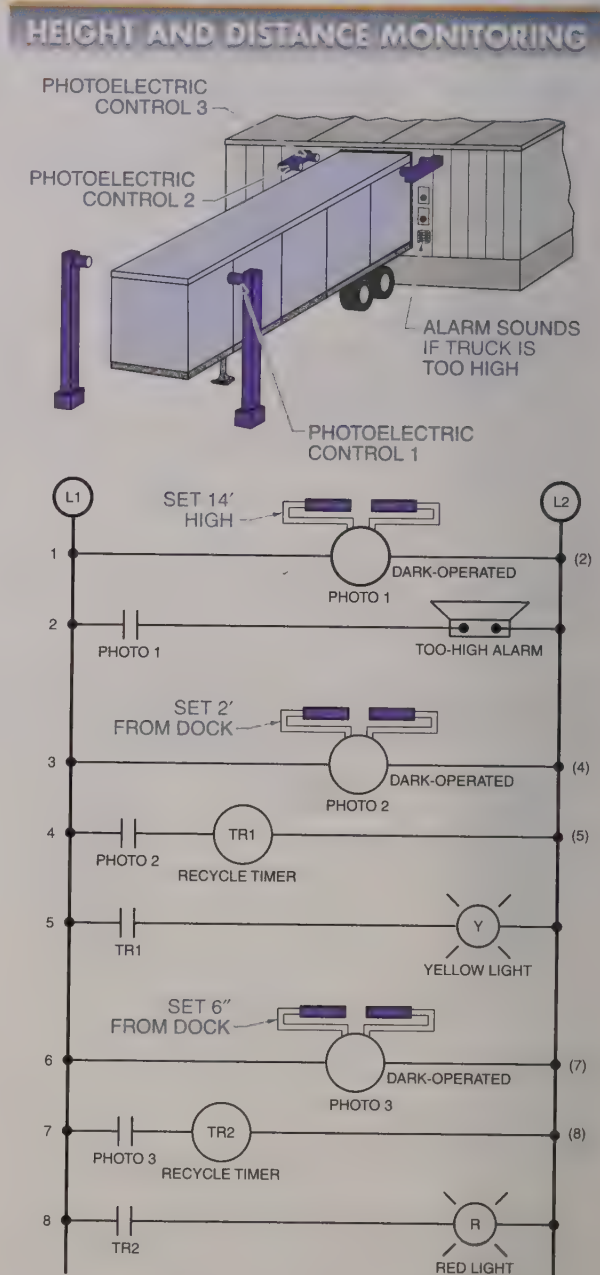

Figure 24-33. Photoelectric sensors may be used to monitor a truck loading bay for clearance and distance.
Photoelectric sensors may be used to monitor a truck loading bay for clearance and distance. See **Figure 24-33**. In this application, any truck 14'-0" or larger must be unloaded at another bay. (The dimensions vary depending on particular needs.) In the control circuit, photoelectric sensor 1 (PHOTO 1) turns on an alarm in line 2 if the truck is too high. Photoelectric sensor 2 (PHOTO 2) starts a recycle timer (TR) that flashes a yellow light on and off at a distance of 2' from the dock. Photoelectric sensor 3 (PHOTO 3) starts a recycle timer that turns on a red light at a distance of 6" from the dock.
1. In the truck loading bay application shown in Figure 24-33, is it best to use a modulated or unmodulated light source?